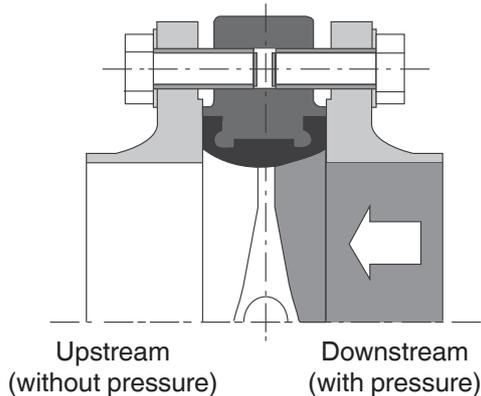

Figure 5: First installation step
4. Loosen all screws diagonally on the side behind the valve (see figures 5 - 7).